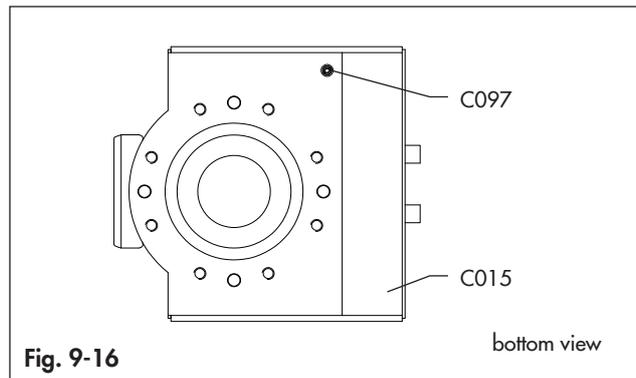

Fig. 9-16
- Clean the relief valve (C097) counterbore over the Central module housing (C015) bottom side making sure it is not obstructed. (Fig. 9-16)